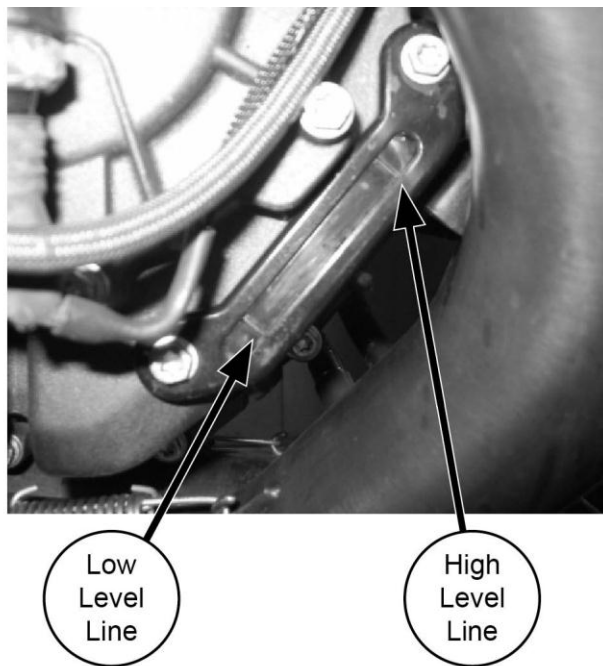

Figure 41. Oil sight gauge (SX) or with fairing removed (RX)
1. With motorcycle on the side stand look at the oil level in the sight gauge. An indicated oil level between the lower and upper lines on the oil level sight gauge is acceptable for safe engine operation. See Figures 41 and 54. On the RX the sight gauge is just visible through the right side fairing cooling slot below the front exhaust pipe.